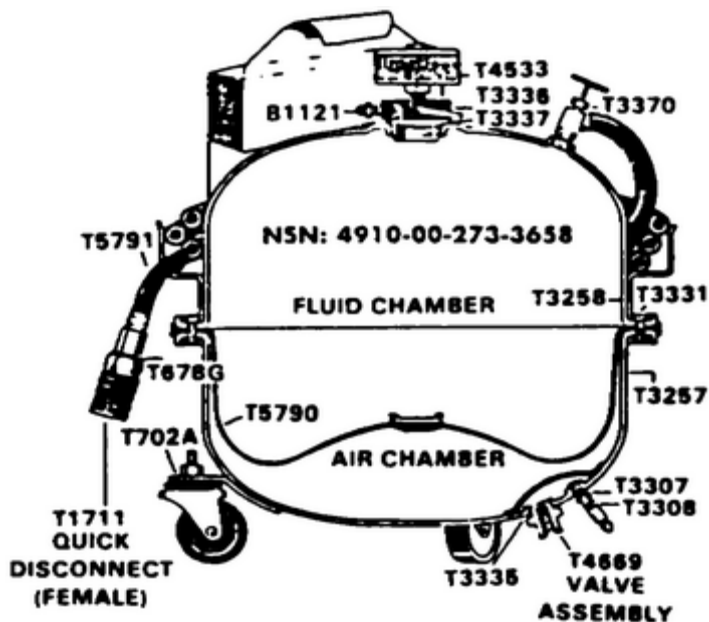

FIGURE 67. HYDRAULIC FILLER/BLEEDER
The filler/bleeder, Figure 67, is a round cylinder divided into two chambers by a tank diaphragm. The top chamber holds hydraulic brake fluid. The bottom holds pressurized air. The filler/bleeder is mounted on casters (rollers) which allow it to be moved easily around the shop.
- a. Refer to Figure 67. Loosen valve cap A to exhaust the air chamber. Leave valve A open. Also, ensure that valve B is fully open.
- b. Wipe dirt from the top of the tank and open filler plug C, Figure 67. Fill the fluid chamber to the brim of the inlet with brake fluid (silicone, automotive all weather, operation and preservative, military specification Mil-B-46176).
- c. Close plug C, Figure 67, hand tight. Tighten air cap A securely and fill the unit with air through cap A until the gage reads in the black, 20 to 30 psi (20 psi is sufficient to bleed all vehicles).
- d. Open bleeder screw D, Figure 67, to bleed any air that may be trapped in the fluid section of the filler/bleeder.
- e. Be sure valve B, Figure 67, is open. The system is now ready for bleeding.